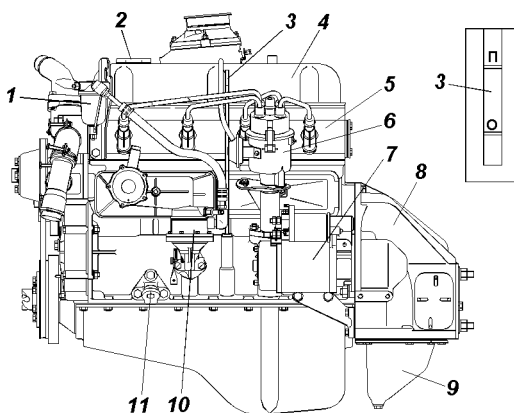

Fig. 20. Engine
The automobile is equipped with the four-cylinder engine with upper valve arrangement which is shown in Fig. 20, 21.
The level of oil in the engine crankcase should be in register with the mark "II" on oil dipstick 3 (Fig. 20). Measure the oil level 2-3 min after shutting down a warmed-up engine.
**Fine fuel filter 1** (refer to Fig. 20) Periodically disassemble the fine fuel filter for flushing the bowl and filter element.